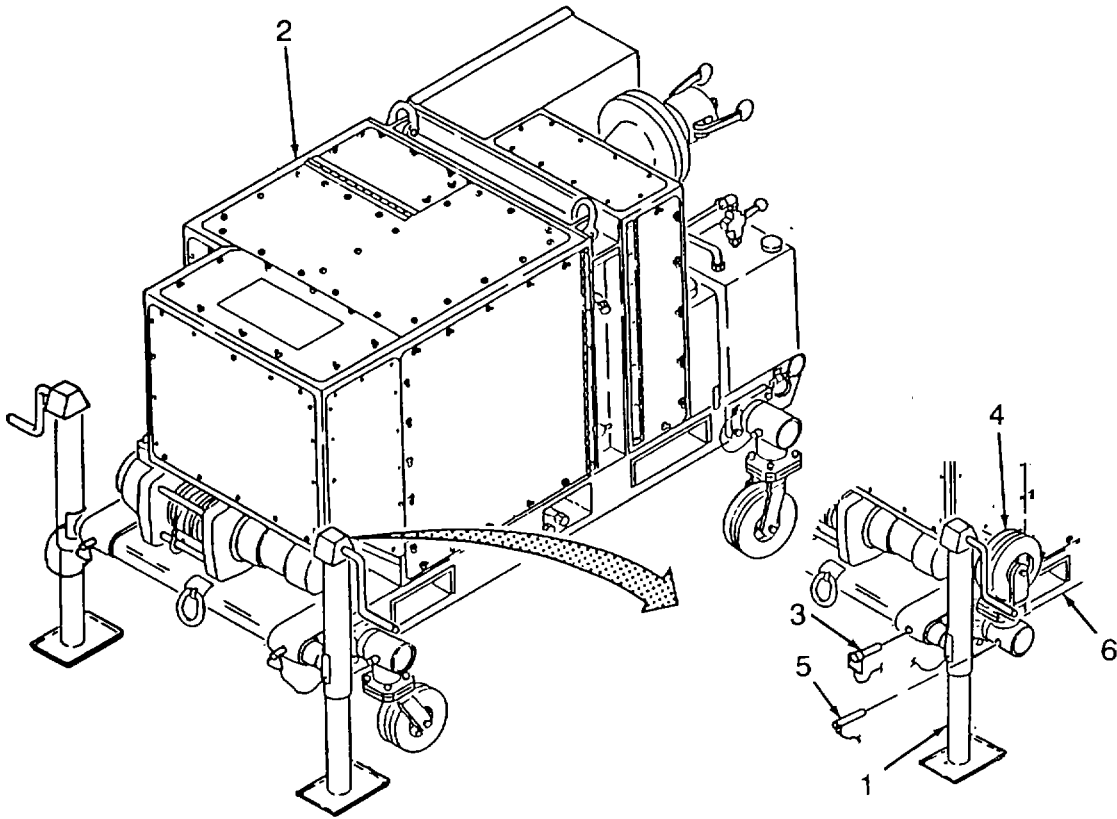

Figure 2-3. Wheel Positioning (Wheels Up)
- (1) Wheels positioning (wheels up). Refer to Figure 2-3.